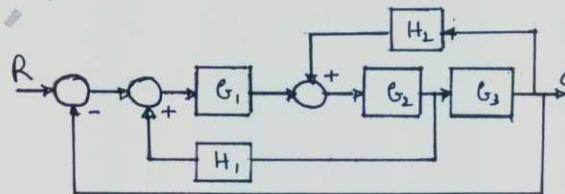

Fig.Q4(c)
- c. Determine the transfer function of the system shown in Fig.Q4(c), by block diagram reduction method.